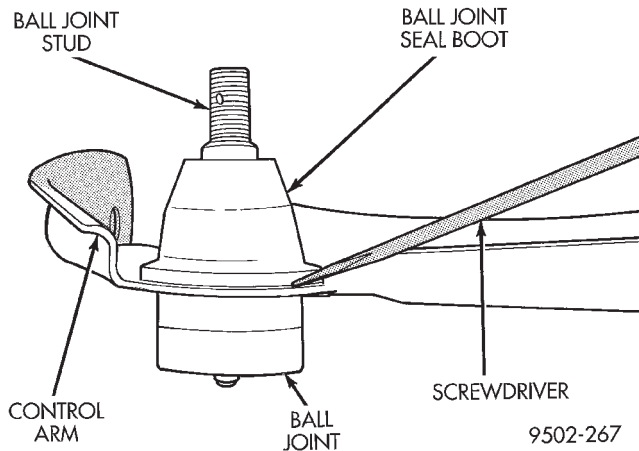

Fig. 78 Seal Boot Removal From Ball Joint
(1) Using a screw driver or other suitable tool, pry seal boot off of the ball joint assembly (Fig. 78).